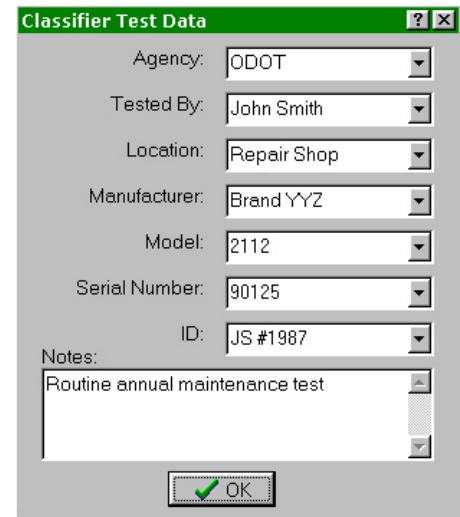

Figure 19 Example #1 User Data
- 7) Now click the Enter User Data to bring up the User Data window and fill it in as shown below in Figure 19.